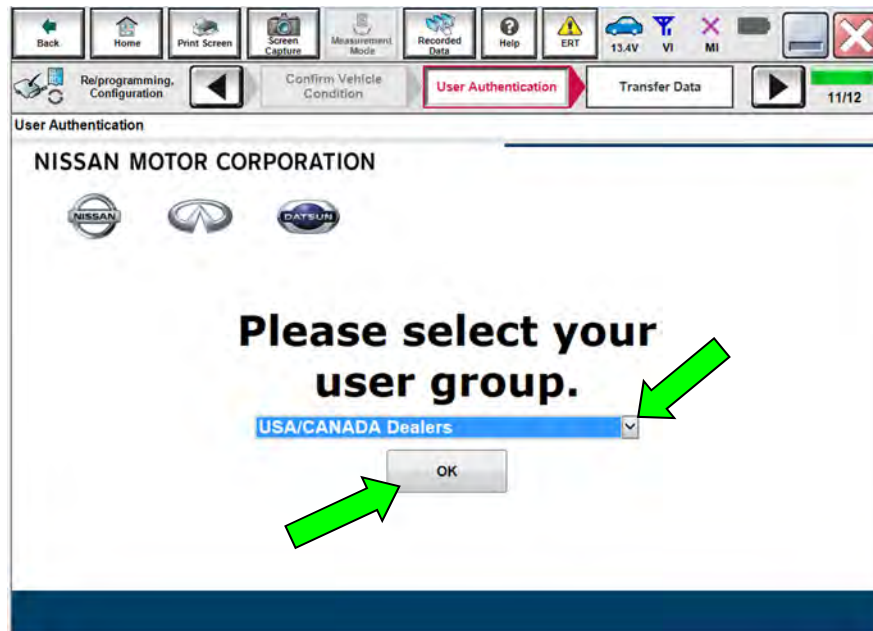

Figure 17
- The screen in Figure 17 on page 13 may not display if the CONSULT PC has remained ON since the last reprogramming.